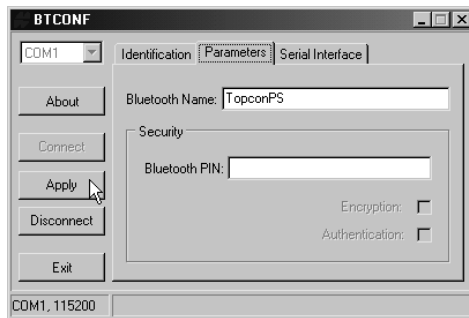

Figure 3-13. BTCONF Parameters Tab
5. Click the **Parameters** tab (Figure 3-13 on page 3-17) to set identification and security information for the Bluetooth module. The security section sets data security and unauthorized access parameters for the Bluetooth module.
6. Enter up to 14 characters to set a unique name for the Bluetooth module (Figure 3-13), and click **Apply**.